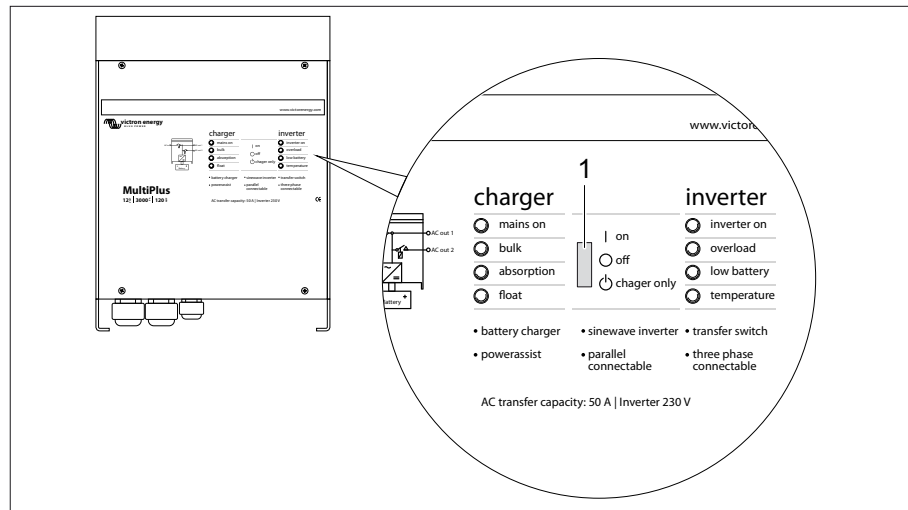

Fig. 242 AC converter MultiPlus
For proper functioning of the Digital Multi Control Panel the flip switch at the AC converter MultiPlus (Fig. 242,1) has to be set to "on".
Positions of the flip switch (Fig. 242,1)
- ▷ If no 230 V connection is active and the vehicle is not being used for a long period, the flip switch (Fig. 242, 1) has to be set to "off". Otherwise it is possible that the batteries are empty are 3–4 days at the latest.